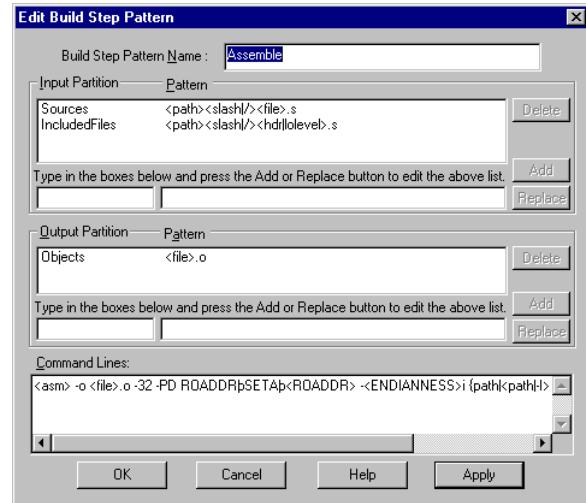

Figure 13-8 Edit Build Step Pattern
3. Select **Assemble** from the list of build step patterns and click on the **Edit...** button. The Edit Build Step Pattern dialog is displayed (Figure 13-8 on page 13-53).